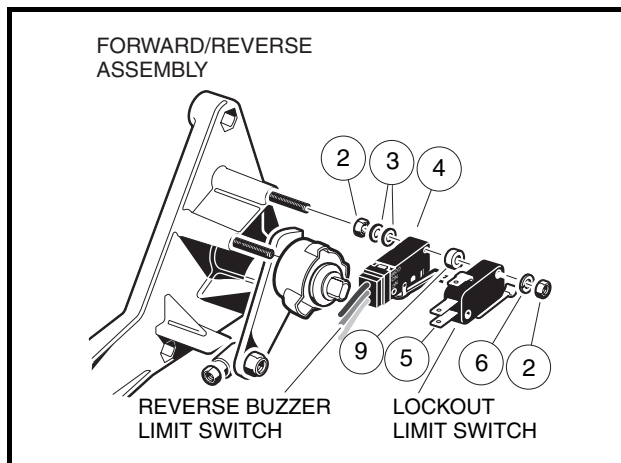

Figure 13-19 Lockout Cam and Reverse Buzzer Limit Switches
3. Disconnect the wires from the lockout cam limit switch (5) located on the back of the Forward/Reverse shifter assembly (**Figure 13-19, Page 13-18**).
4. Remove two nuts (2) and washers (6) from the lockout cam limit switch (5) and slide the lockout cam limit switch off of the screws.
1. Install the limit switch (5) with washers (6) and nuts (2) and tighten to 5 in-lb (0.6 N·m) (**Figure 13-19, Page 13-18**). Place the Forward/Reverse handle in REVERSE to make sure that both switches actuate. **See following CAUTION.**
3. Disconnect the wires from the reverse buzzer limit switch (4) located on the back of the Forward/Reverse assembly (**Figure 13-19, Page 13-18**).
4. Remove the nuts (2) and washers (6) from the lockout cam limit switch (5) and slide the lockout cam limit switch off of the screws. Do not disconnect the wires.
5. Remove the spacers (9) from the reverse buzzer limit switch (4) and slide the reverse buzzer limit switch off the screws.
4. Connect the orange wire to the black wire (COM) terminal and the red/white wire to the blue wire, normally open (NO) terminal of the reverse buzzer limit switch (4) (**Figure 13-19, Page 13-18**).